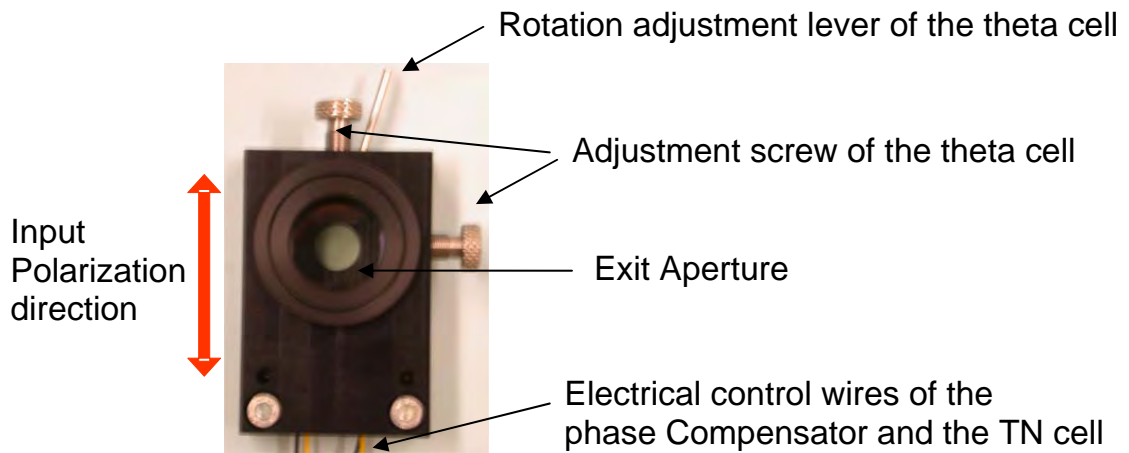

Figure 4: The liquid crystal polarization converter in its final housing. The clear aperture is 10 mm.
The complete system (polarization converter + TN cell+ variable phase Compensator (retarder or shifter) is integrated into an aluminum housing as shown in figure 4. The polarization converter can be rotated and translated with respect to the TN cell and the phase compensator with the rotation lever and the x-y adjustment screws. Two wires must be connected to a conventional labor AC power supply for setting the adequate phase retardation depending of the used wavelength and to the two other wires must be connected to a second power supply capable to switch between 0 and (at least) 5V (see electrical connection section).
Notice that in figure 4 the polarization converter (between polarizers) is illuminated with white diffuse light. If the system is illuminated with a collimated coherent laser beam the defect line (π phase step) of the theta cell produces a diffraction pattern (low intensity line in the center) that disturb the intensity profile at the output of the system (see figures in the alignment section). This line disappears when an additional phase compensator is inserted in the system to compensate the π phase shift of the theta cell. A further spatial filter after the polarization converter may be used to clean up some residual inhomogenities in the intensity profile.
- 3) Make sure that the incoming light is linearly polarized and correctly oriented with respect to the device (see figure 4)
- 7) Rotate and translate the theta-cell with the rotation lever (should be very close to the vertical position) and the x-y translation screws (see figure 4) until the two lines are perfectly superposed and with the CCD camera you observe only one line as shown in figure 7C. Notice that it is possible that the two lines already superpose, move x-y to check this.